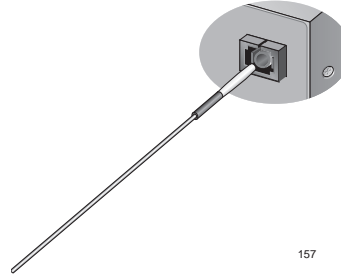

Figure 30. Cleaning a Recessed Ferrule
1. Insert the swab into the adapter as shown in Figure 30. Rub the ferrule tip with the swab.